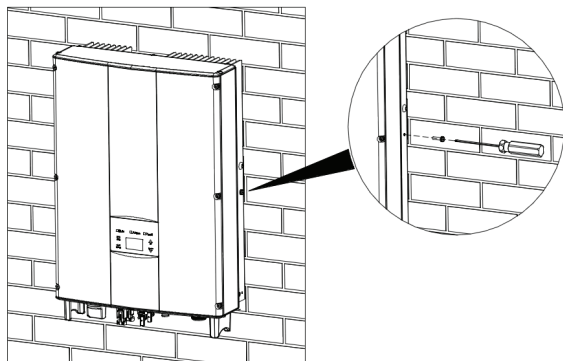

Figure 15 Installation of M5X20 bolts
(6) Ensure the inverter is installed properly and tighten the M5X20 bolts into the screw holes on the left and right side of inverter (tightening torque is $3\text{N}\cdot\text{m}$). As shown in Figure 15.